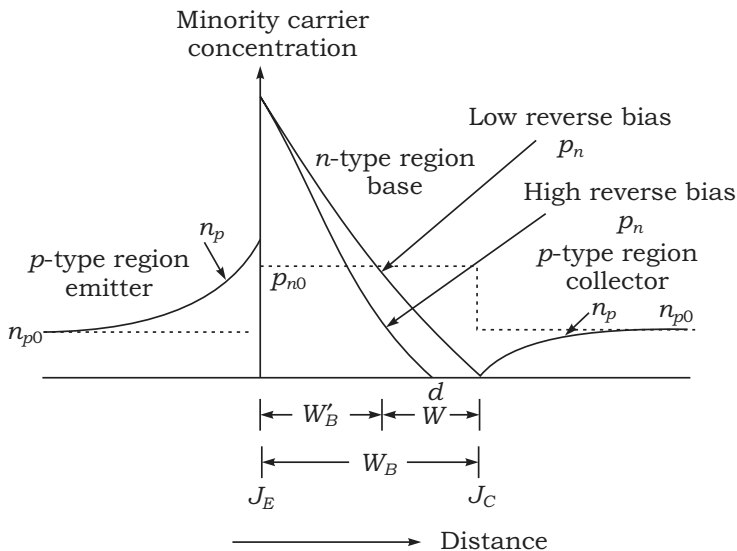

Fig. 3 The minority carrier density within base region at low reverse bias and high reverse bias
- The concentration gradient of minority carriers p_n increases within the base. The hole concentration p_n is zero at a distance d , which is in between W_B and W'_B , but the potential at J_C becomes below V_O . Figure 3 shows the minority carrier density within base region at low reverse-bias and high reverse-bias conditions.